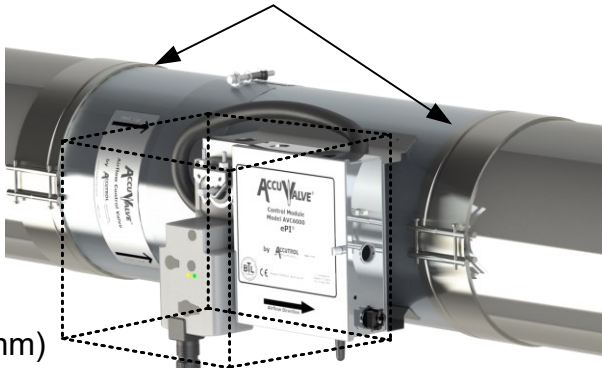

Figure 3
- 6. Install the valve into the duct in accordance with the Airflow Direction Label located on the valve. Position valve for easy access to the control module side and secure to duct per Figure 3.